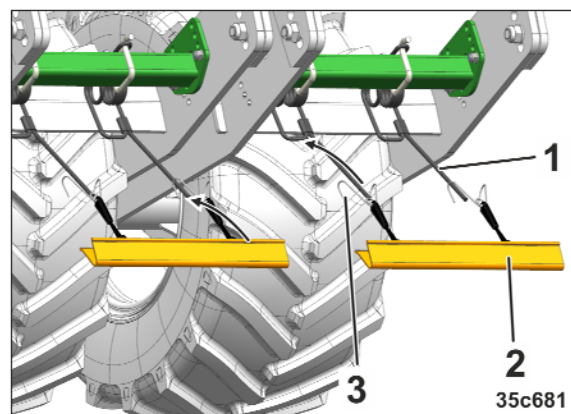

Fig. 222
1. Take the road safety bars (Fig. 222/2) out of the storage compartment.
2. Install the road safety bars (Fig. 222/2).
- Hook the tension cables (Fig. 222/3) onto the harrow tines (Fig. 222/1).